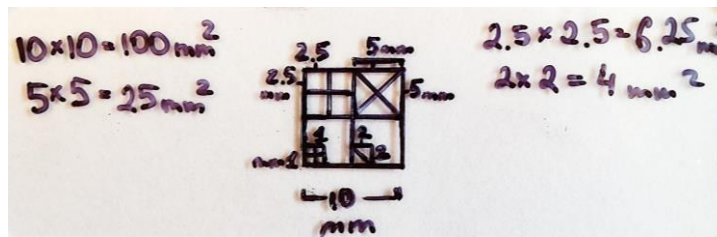

Figure 2: Picture of the microscope slide used for area determination.
- Using a measuring slide (figure 2) estimate the approximate tumor tissue surface area on H&E slide. Ideally at total surface area of >150 mm² (15mm² tumor surface area X 10 slides) will yield sufficient DNA and RNA for exome and RNA sequencing libraries; macro dissection of multiple slides may be required. A maximum of 600mm² of tumor tissue (100mm² tumor surface area X 6 slides) may be extracted over 1 purification column set. Tumors with a total surface area of <150mm² should be prioritized for DNA or RNA extraction only; separate protocols apply.